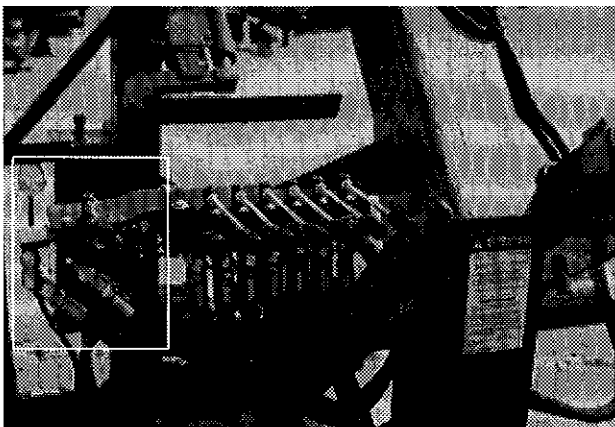

Figure 38
- 3) A hydraulic steering control mechanism is also available as an option, in this case, an additional control valve (Fig. 38) and an additional cylinder (2.5" x 8" stroke) are required (Fig. 39).